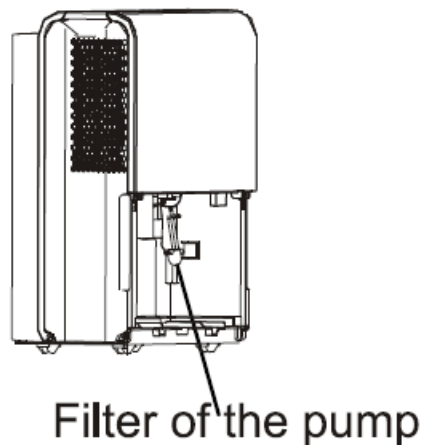

Fig.12
- Remove the bucket from the unit, take down the pump, and clean the filter of the pump (See Fig.12).